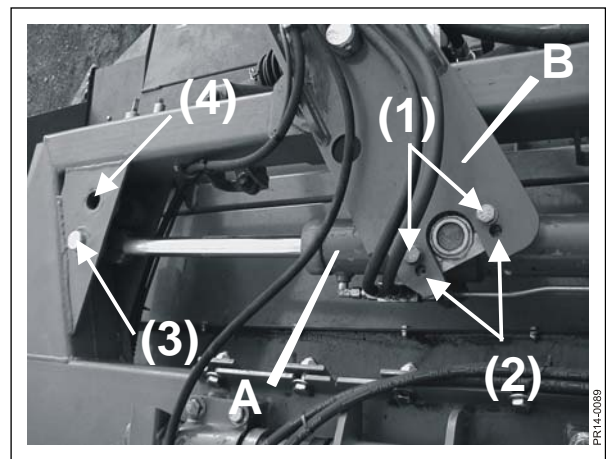
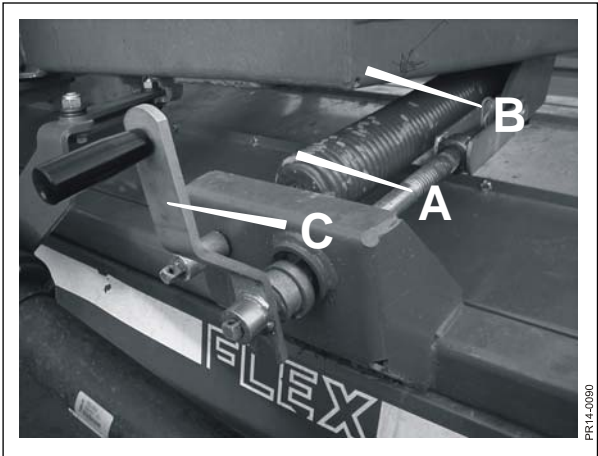

Fig. 3-10
Fig. 3-12
Fig. 3-10 The drawbar cylinder **A** can be mounted in 2 positions on the drawbar **B**. The position determines the swing of the drawbar. From the factory the cylinder is mounted in position **(1)** which gives the smallest overlap.
Fig. 3-10 At the opposite end the cylinder is mounted in position **(3)**. The other mounting hole, position **(4)** is **ONLY** intended for driving with asymmetric guards where the swing of the drawbar is different to the left and right hand side.
Fig. 3-12 When the position for the guide shoes has been chosen, fine adjustment of the stubble height can take place through central adjustment of the inclination of the cutter bar by means of the 2 spindles **A**.
- By loosening the horizontal Top Safe springs a little (see fig. 3-12) and tighten the vertical springs a little (see fig. 3-10).